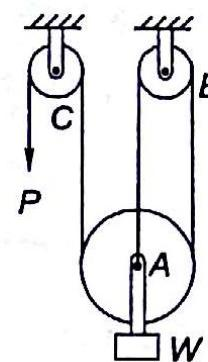

Fig. 3.49
- 3.3 A pull of 200 N is applied on a pulley system shown in Fig. 3.49. Weights of pulleys A , B and C are 100 N, 30 N and 40 N respectively. Pulleys are frictionless. What weight W can be lifted by the system.